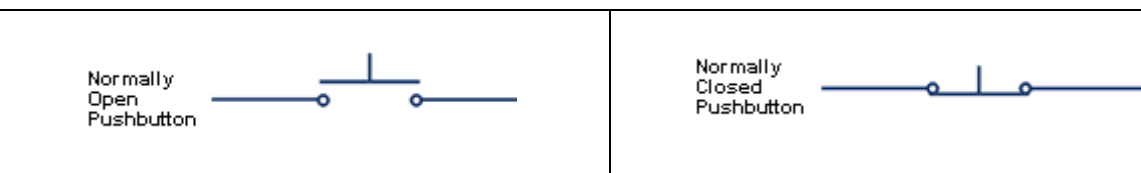

Fig 2.2: Pushbutton Symbols
A normally open (NO) pushbutton is used in the above example. When the switch is not pressed, no voltage is present at the PLC Input 1 and sets it to OFF state. When the switch is pressed, 24V dc is applied to the PLC input and sets it to ON state. A normally closed (NC) pushbutton acts opposite to the normally open (NO) pushbutton. Fig 2.2 shows the pushbutton symbols.